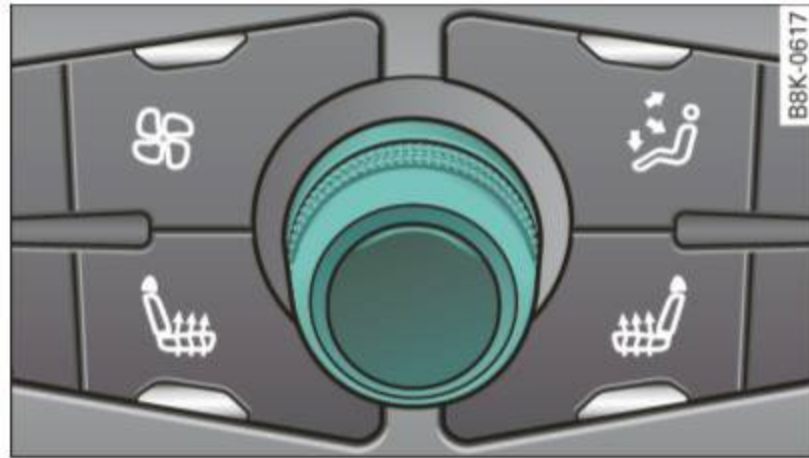

Fig. 106 Temperature setting regulator
- Rotate the regulator to the left to reduce the temperature, or to the right to increase the temperature ⇒ fig. 106.